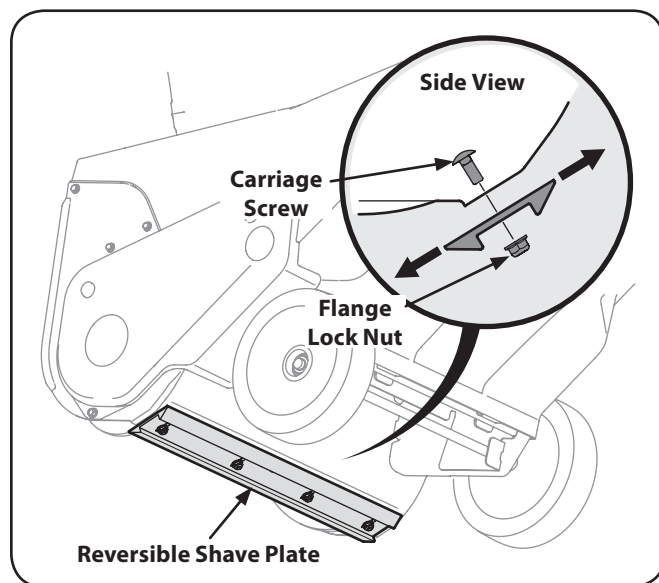

Figure 6-1
3. Loosen the four flange lock nuts and carriage screws which secure the shave plate to the housing. See Figure 6-1. Move the shave plate to the desired position and retighten the flange lock nuts and carriage screws securely.